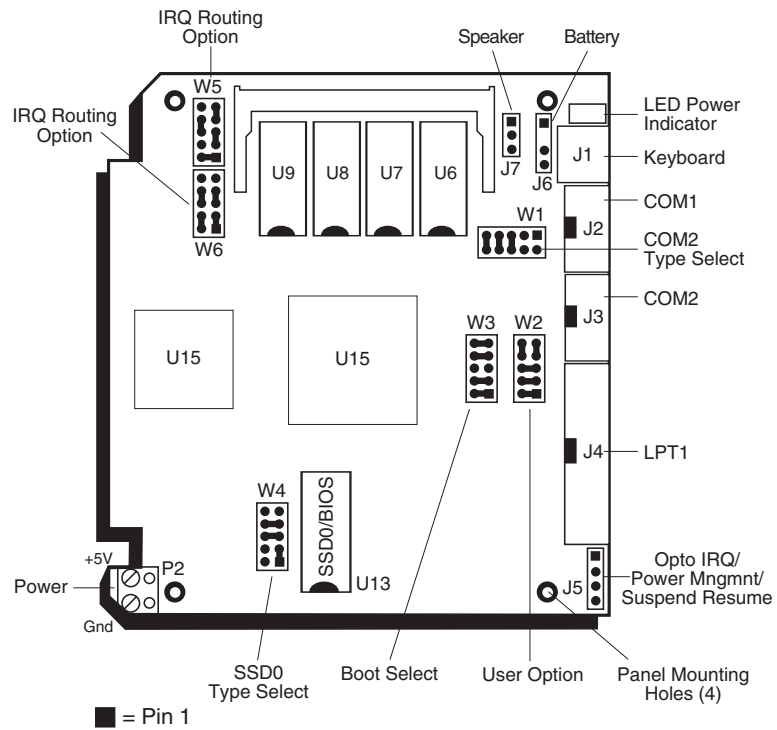

Figure 2-1 – 5066 Component Diagram
Figure 2-1 provides a component diagram of the 5066. Refer to it as needed.
1. Refer to Figure 2-1 for the location of various connectors before installing the 5066 Control Card.